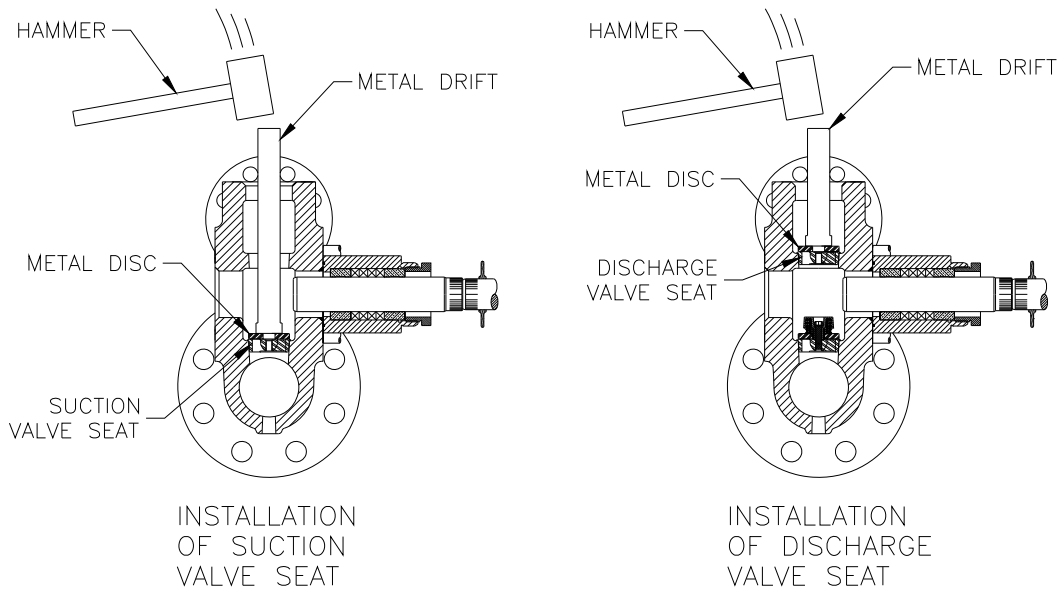

Figure 21
- d. Using a metal plate or old worn valve body, drive the seat into place with several sharp blows from a hammer and bar. See Figure 21.